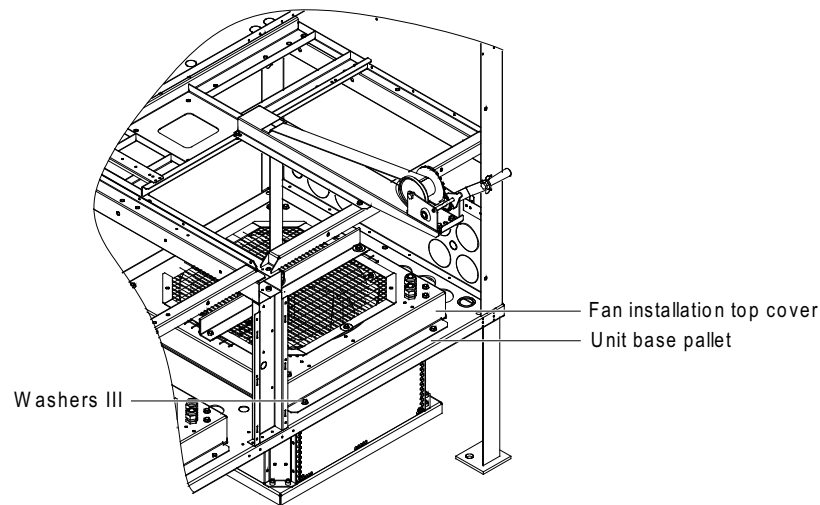

Figure 2-33 Lowering the fan
4. Hold the handle of the winch firmly, and then turn the handle counter-clockwise to lower the fan. After the fan is sunk, the status is shown in Figure 2-33.
5. Install the fixing bolts and washers III (see Figure 2-33, totally 4 pcs) of the fan.